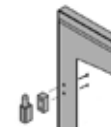
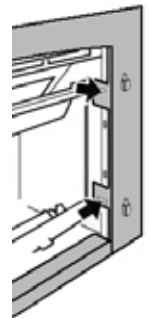

Fig. 2
Fig. 3
3. Mount 4 hinge pins to steel backing plate (see Fig. 2) and install backing plate as shown using screws provided (see Fig. 3).